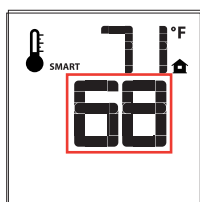

Figure 55- Remote Control Displaying Smart Thermostat Function
1. To activate this function, press the Thermostat key until the word "SMART" appears to the right of the temperature bulb on the LCD screen (see Figure 55).